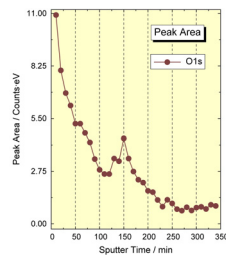
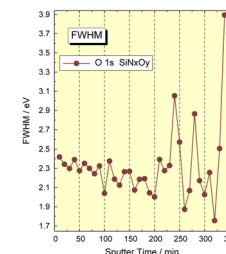
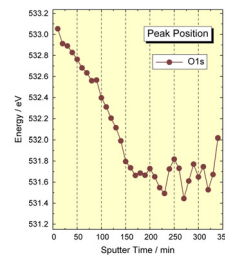

Fig. 6. Parameter Plot: Peak areas O 1s
Fig. 8. Parameter Plot: FWHMs O 1s
Fig. 7. Parameter Plot: Peak positions O 1s
6. Plot Fit Parameter: Plot of fit parameters, e.g. peak position (see Fig. 7, 13, 19), peak area (see Fig. 6, 12, 18), FWHM (see Fig. 8, 14, 20), peak height, etc.,